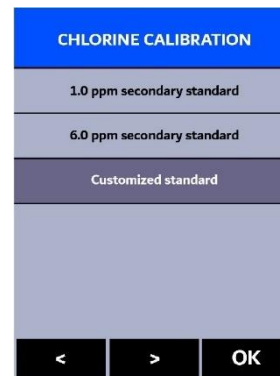

Figure 38.
6. Use **<** and **>** to cycle to "**Customized standard**" (Figure 38).